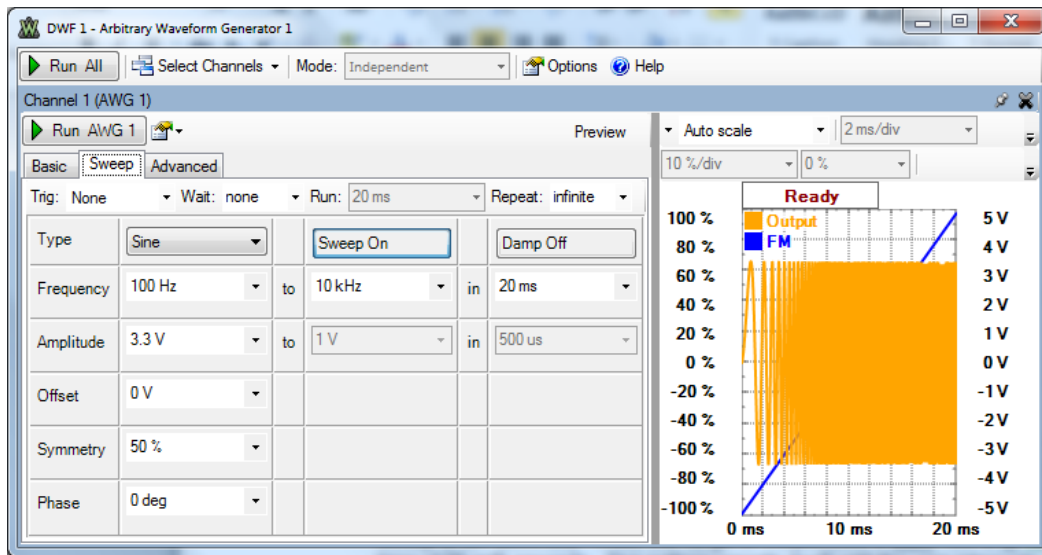

Figure B1. Example arbitrary waveform generator window.
- The sinusoidal sweep we will apply is displayed in the plot window. The sinusoidal sweep we will apply is displayed in the plot window. Since our sweep changes frequency rapidly, the plot will not provide much detail as to the actual wave shape. If desired, you can adjust the plot parameters to get a better feeling as to the actual shape of the waveform. The **Arbitrary Waveform Generator** window, with the plot parameters chosen above, is shown in Fig. B1; your window should look.